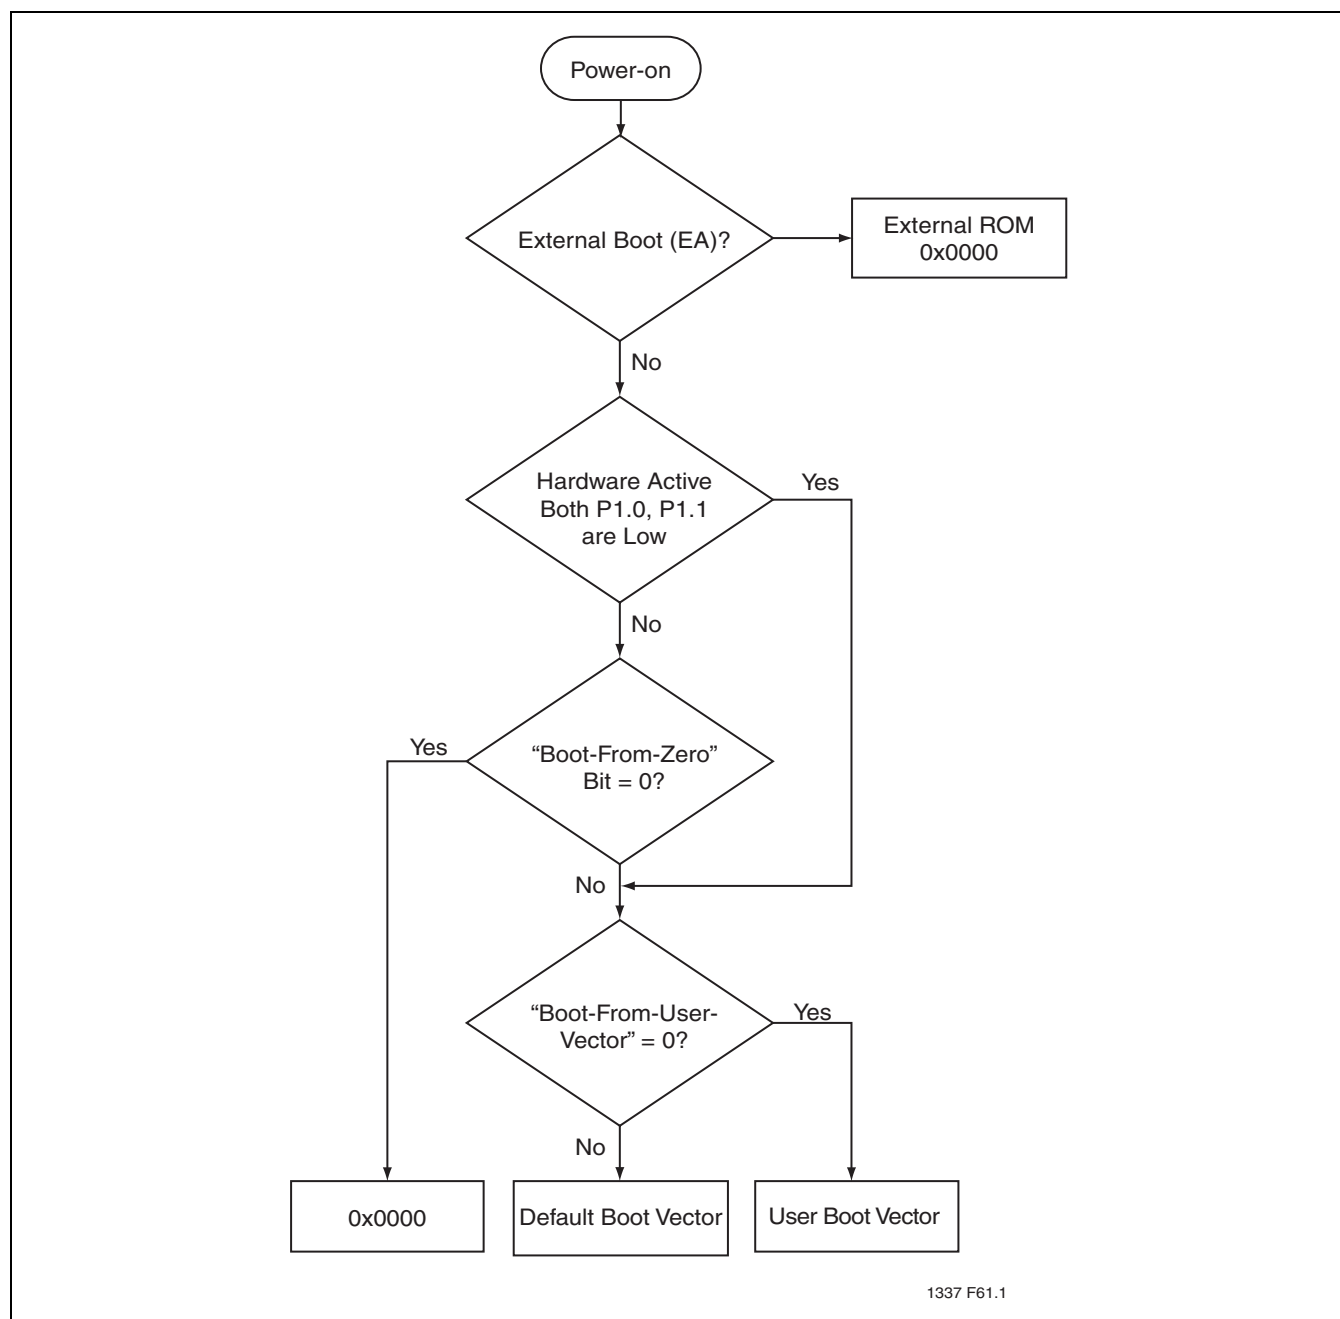

FIGURE 4-8: Boot Sequence Flowchart
If the "Boot-From-Zero" bit is '1' and the "Boot-From-User-Vector" bit is '0', the USER Boot Vector is applicable. This is used as the high byte of the program counter (PC) starting address while the lower byte of PC is 00H. See Figure 4-8.